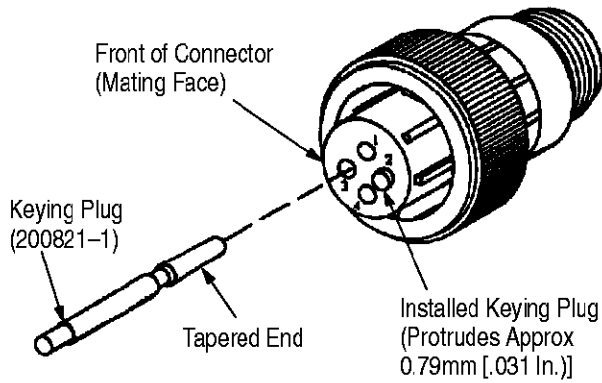

Figure 11
11.1. Keying Series 1 Connectors (Figure 11)